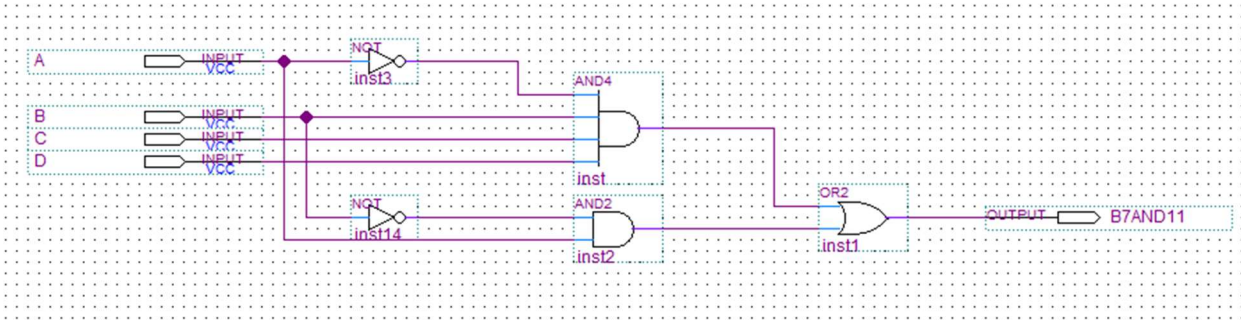

Figure 2: B711 detector
2. **Draw** and **simulate** the circuit of Figure 2. It detects 4-bit numbers between 7 and 11.